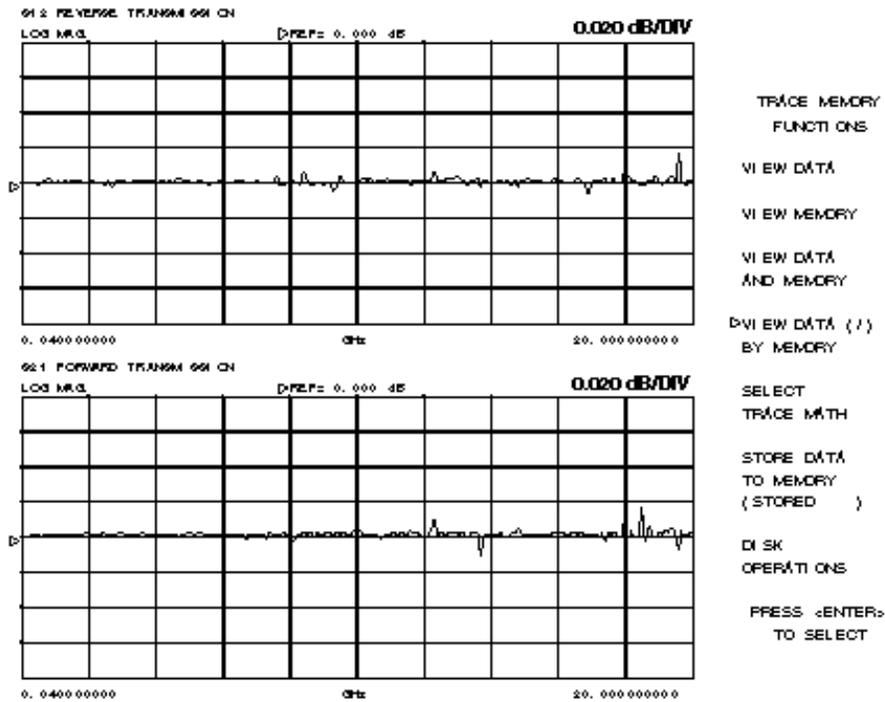

Figure 4-2. High Level Noise Test Waveform
- Step 11.** Verify that the peak-to-peak High Level Noise falls within the area between the two limit lines (Figure 4-2).